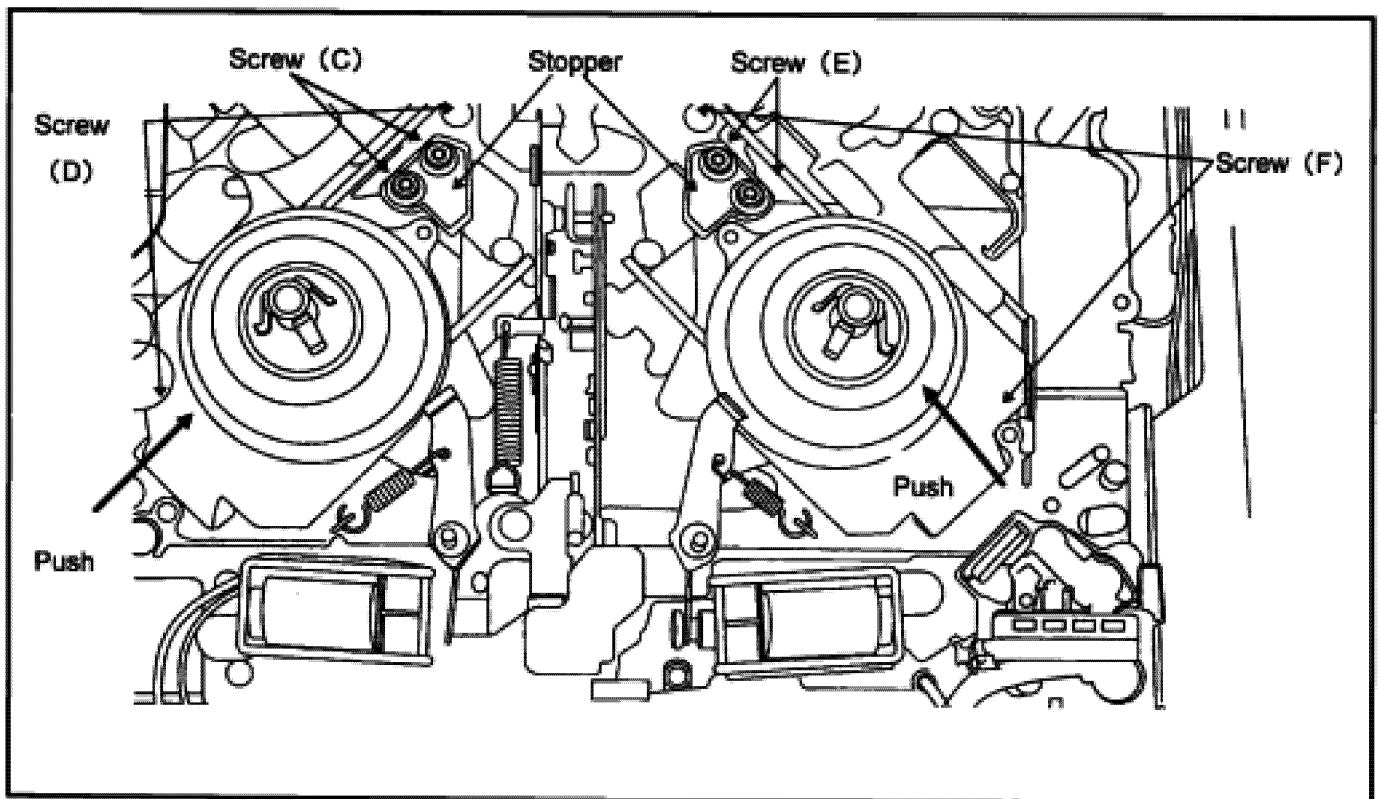

Fig.M8
3. Turn the Emergency Gear until S1 Post moved to center loading Position and remove the S5 Post(Refer to item 14).
5. Unscrew the 2 screws (C) to remove the Supply Reel Stopper as shown in Figure M8.
6. Push the Reel Table to middle position and unscrew the 2 screws(D) to remove the Supply Reel Rotor Unit as shown in Figure M8.
4. Push the Reel Table to middle position and unscrew the 2 screws (F) to remove the Take Up Reel Rotor Unit as shown in Figure M8.